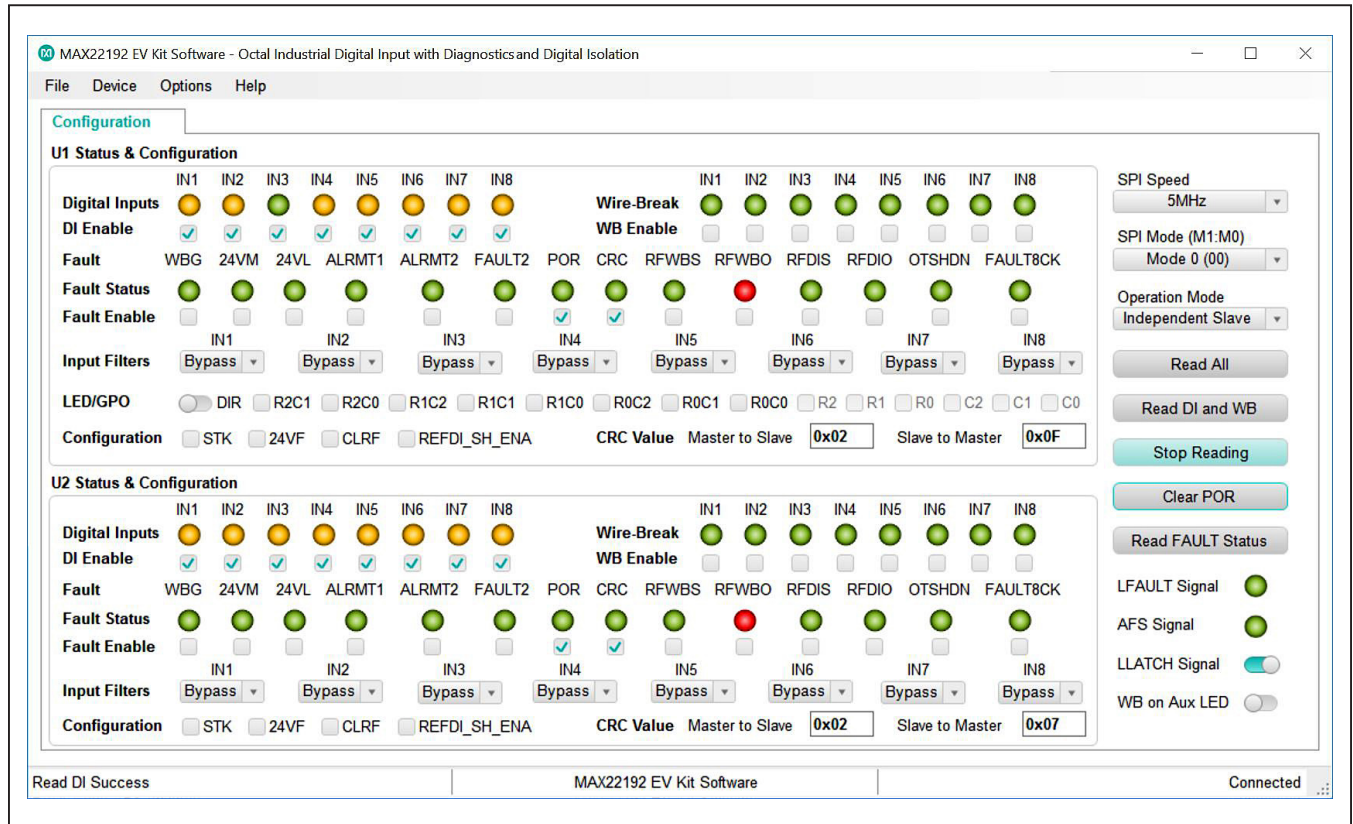

Figure 4. MAX22192 EV Kit Software—Read DI Continuously
- 15) Click **Read DI Continuously** button. The EV kit software reads the U1 and U2 DI registers continuously. Connect the 24V DC voltage to one of the input test points, for example, test point U1_IN3. The corresponding **Digital Inputs** status light **IN3** is changed to green from yellow to indicate U1 channel IN3 is high as shown in Figure 4. On the EV kit board, the U1_LED3 LED is also turned on.